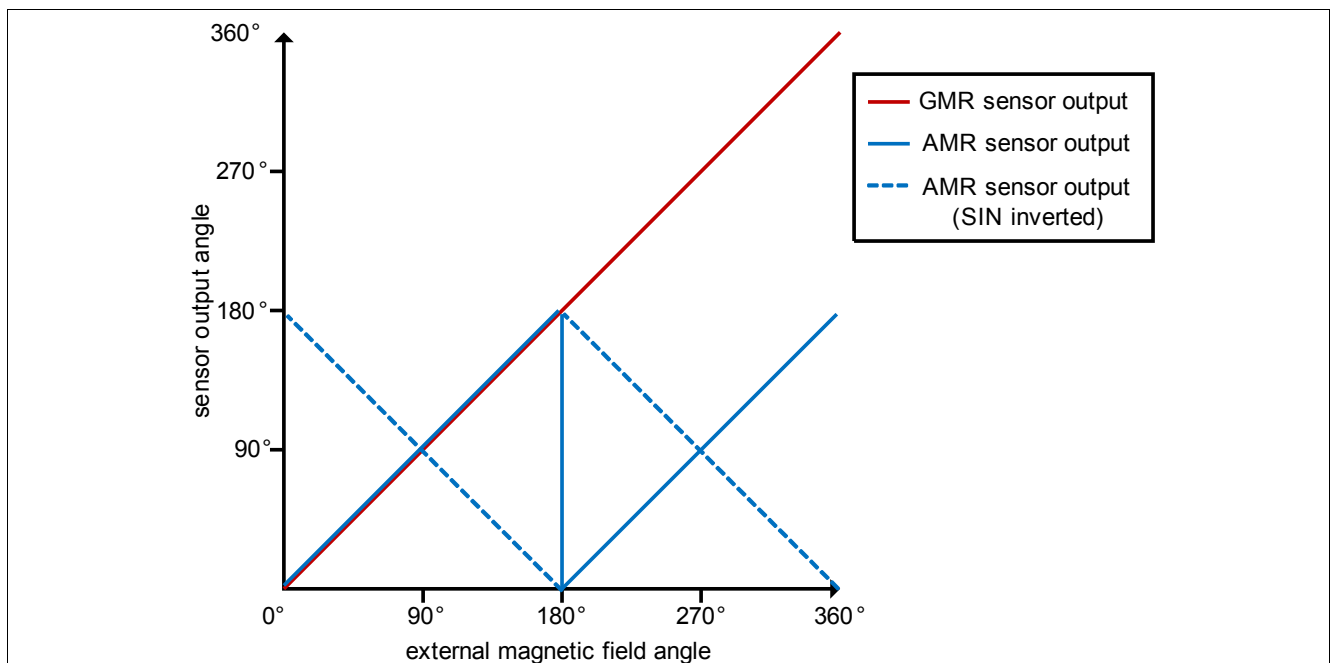

Figure 8 Dual die angle output
The bottom sensor element of the TLE5309D is an AMR sensor, the signal of which is only unambiguous over 180°. Therefore, in the angle range of 180° to 360° of the GMR sensor, the AMR sensor output signal will be in a range of 0° to 180° again. This behavior is illustrated in **Figure 8**, which shows the angle calculated according to **Equation (1)** and **Equation (2)** from the output of the GMR and AMR sensors, respectively, for a given external magnetic field orientation.
If in an application a different output of the two sensors is desired, the connections to the SIN_N and SIN_P or COS_N and COS_P pins on the printed circuit board can be interchanged. The consequence of this change of connections is that either the differential sine or the cosine signal are inverted, which corresponds to a change of rotation direction (see dashed line in **Figure 8**).